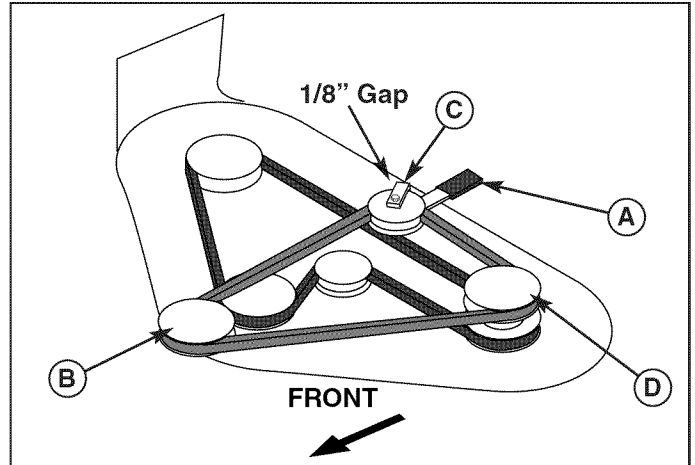

Figure 41. Mower Belt Routing
2. Move the idler arm (A, Figure 41) to relieve belt tension. Drop the belt from the PTO (electric clutch) pulley.
3. Loosen the nut and lockwasher securing the idler pulley belt guide (C, Figure 41).
6. See Figure 41. Position the idler pulley belt stop (C) in its original position so that there is a 1/8" (3mm) gap between the pulley and belt stop.